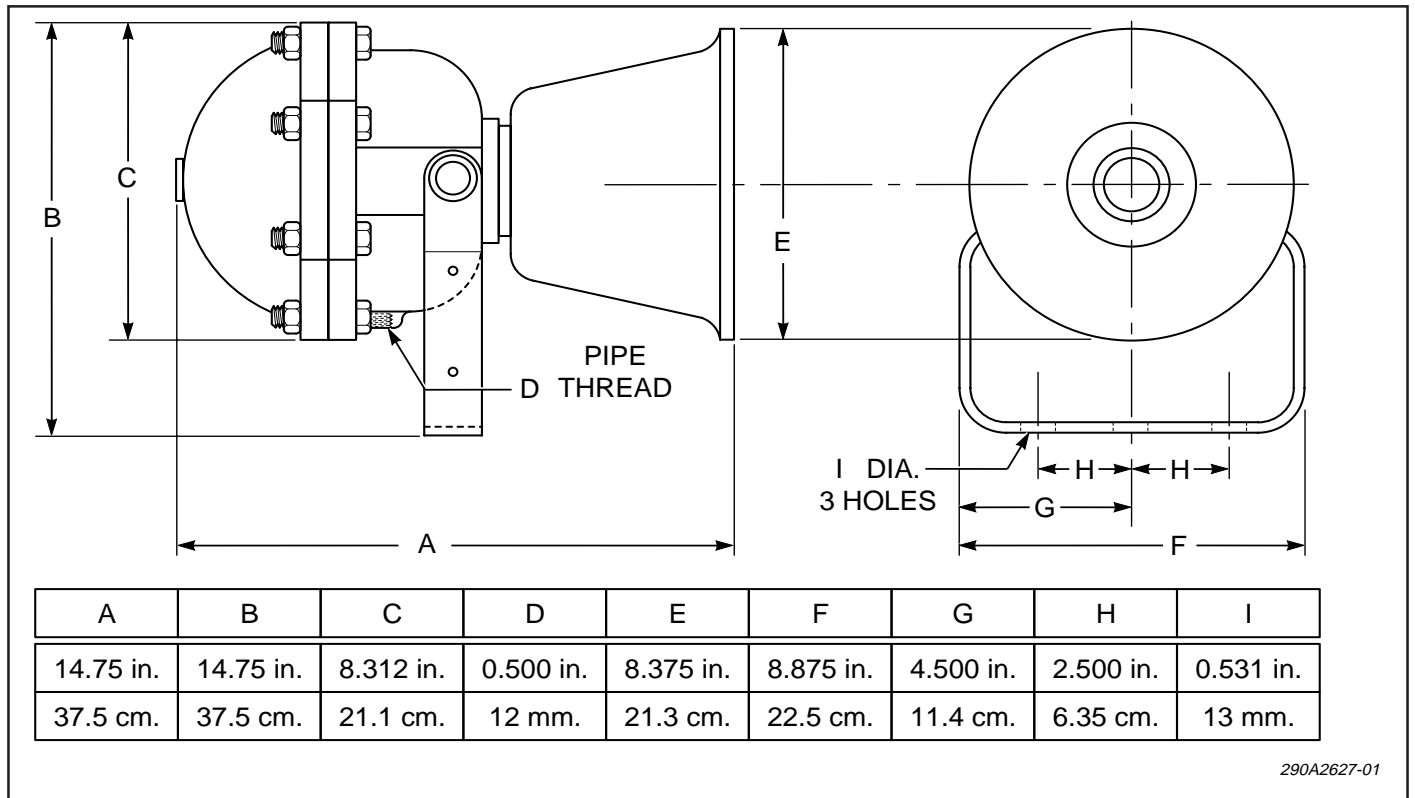

Figure 1. Model SPHX Speaker Dimensions.
The speaker can be mounted on any relatively flat surface. Conduit connection can be made to 1/2" threaded opening at bottom of housing (see Figure 1).
- c. Using the mounting bracket as a template, scribe drill position marks on the mounting surface. See figure 1 for mounting hole locations and dimensions.